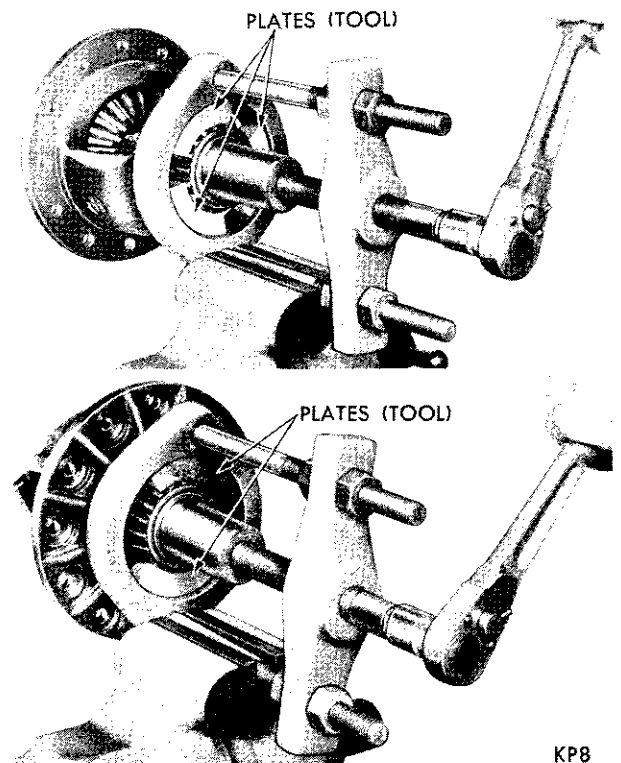

Fig. 22—Removing Differential Bearings
(1) Clean all parts in a fast evaporating mineral spirits or a dry cleaning solvent and with the exception of bearings, dry with compressed air.
(2) Inspect differential bearing cones, cups and rollers for pitting, spalling or other visible damage. If replacement is necessary, remove bearing cones from differential case with Tool C-293 and adapter plates No. 43 (Fig. 22).
(3) Inspect differential case for elongated or enlarged pinion shaft hole. The machined thrust washer surface areas and counterbores must be smooth and without metal deposits or surface imperfections. If any of the above conditions exist, satisfactory correction must be made or the case replaced. Inspect case for cracks or other visible damage which might render it unfit for further service.
(4) Inspect differential pinion shaft for excessive wear in contact area of differential pinions. Shaft should be smooth and round with no scoring or metal pickup.
(5) Inspect differential side gears and pinions, they should have smooth teeth with a uniform contact pattern without excessive wear or broken surfaces. The differential side gear and pinion thrust washers should be smooth and free from any scoring or metal pickup.
(6) Inspect axle shaft thrust block for excessive wear or visible damage. The wear surface on the opposite ends of the blocks, must be smooth.
(7) Inspect differential pinion shaft lock pin for